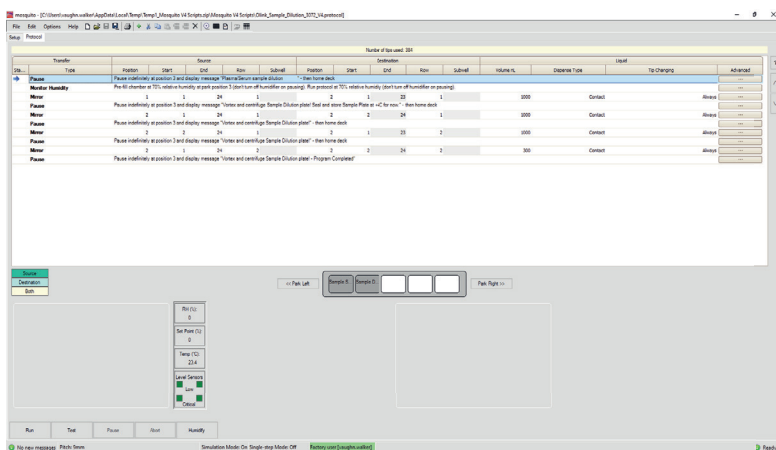

Figure 44. Pop-up window during Mosquito dilution protocol.
7. When the Mosquito® protocol is paused and a pop-up window appears on the screen (Figure 44), remove the Sample Source Plate and the Sample Dilution Plate from the Mosquito® deck and from the magnetic clamp boosters.